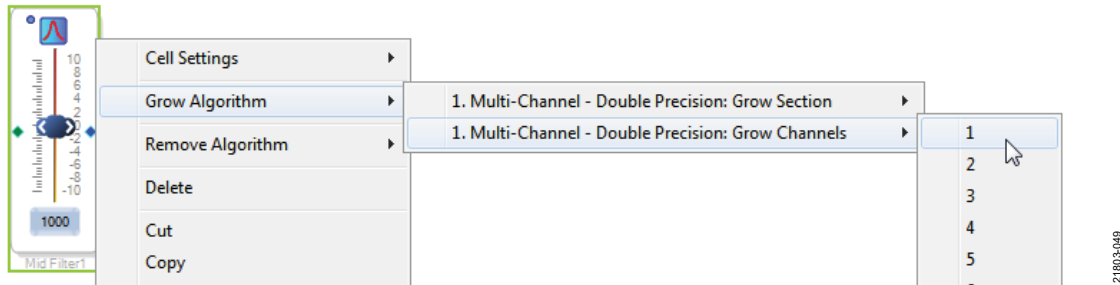

Figure 50. Adding a Channel to the Filter
2. By default, the block has one input and one output (single channel). To add another channel, right-click the empty white space of the **MidFilter1** block, then select **Grow Algorithm > 1. Multi-Channel – Double Precision: Grow Channels > 1** option from the drop-down menu that appears (see Figure 50).